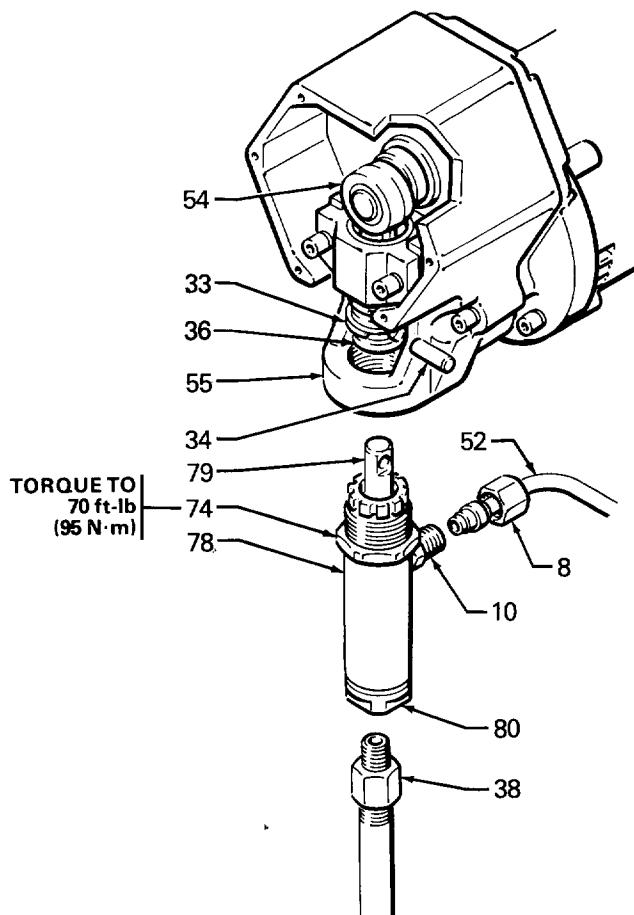
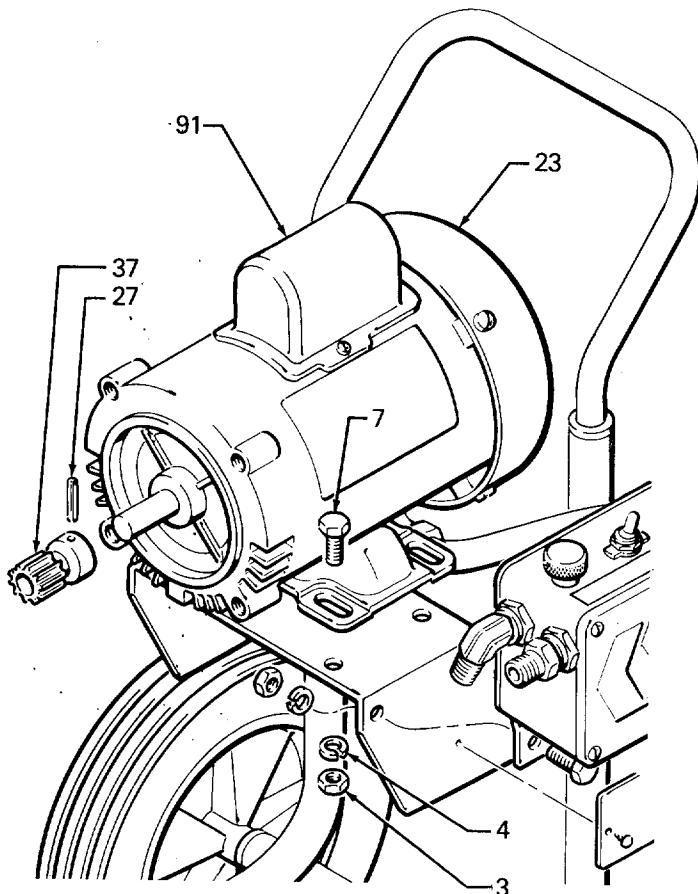
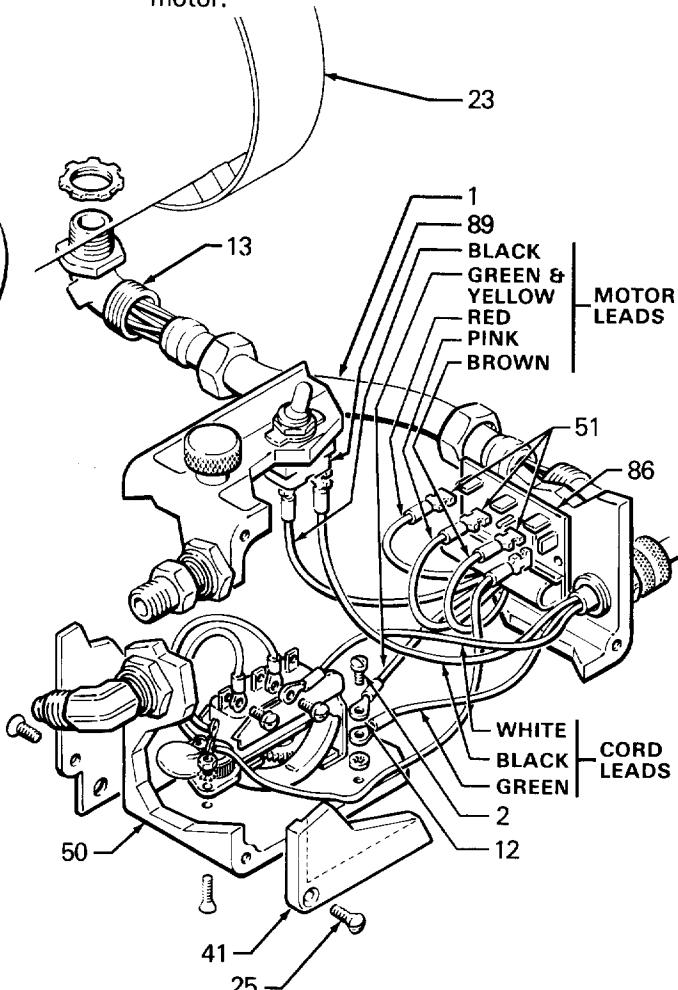

Fig 14
Fig 20
Fig 21
Unscrew adapter (38) from pump. See Fig 14. Use a wrench on the pump intake valve (80) to keep it from loosening.
Unscrew the tube fitting nut (8) from male connector (10) and remove tube (52). See Fig 14.
Disconnect tube fitting nut (8) from connector (10). See Fig 14. Remove drive assembly as described on page 6. You can leave pump, connecting rod and bearing assembled to drive assembly. Drive out pin (27) and remove gear (37). See Fig 20. Remove screws (25) and cover (41) from pressure control (50). See Fig 21. Disconnect red, pink and brown motor leads from circuit board (86). Disconnect green and yellow motor lead from grounding screw (2) and black motor lead from toggle switch (89).
Remove two screws and the cover of capacitor (91). See Fig 20. Remove flag connectors from old capacitor. Connect flag connectors of new capacitor and replace cover.
Unscrew nuts on both ends of conduit (1) from connectors. Remove screws (7), nuts (3) and lockwashers (4). See Fig 20. Remove motor from frame while carefully guiding wires through connector in control box. Remove conduit (1) from wires.
NOTE: Terminals (12 and 51) are not included with a new motor (23). Order these separately and crimp to motor leads as shown in Fig 21. Circuit board (86) is included with a new motor.